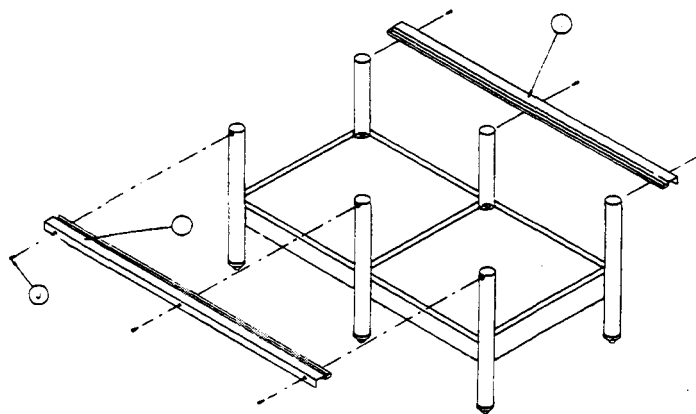

Figure 8
- 8. Position top front and rear support item "I" over leg assemblies as shown in Figure 8. Secure into leg assemblies with V* - 20 x %. hex head bolts item "J."